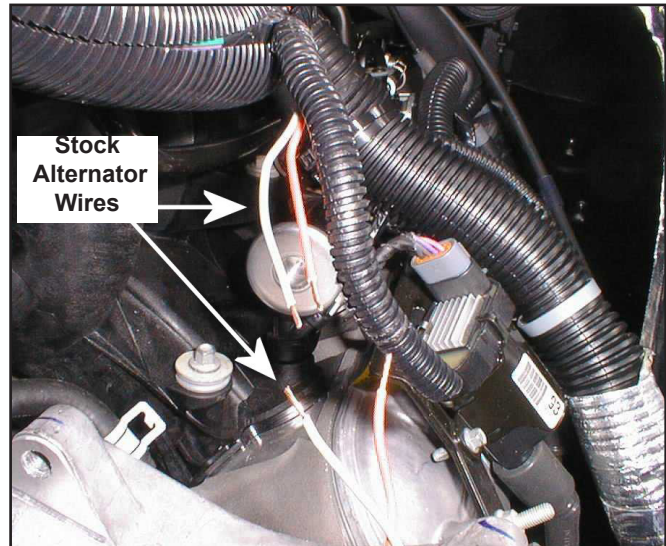

Figure 12. Routing Extended Wires
- a. First remove the tape and plastic split loom back to expose gray and orange wires. Cut the wires approximately 2" from the plug and install the orange and gray extension wires with the pink butt connectors provided in the kit. The extended wires can be routed inside the main Chevy wire harness that runs forward (see Figure 12).